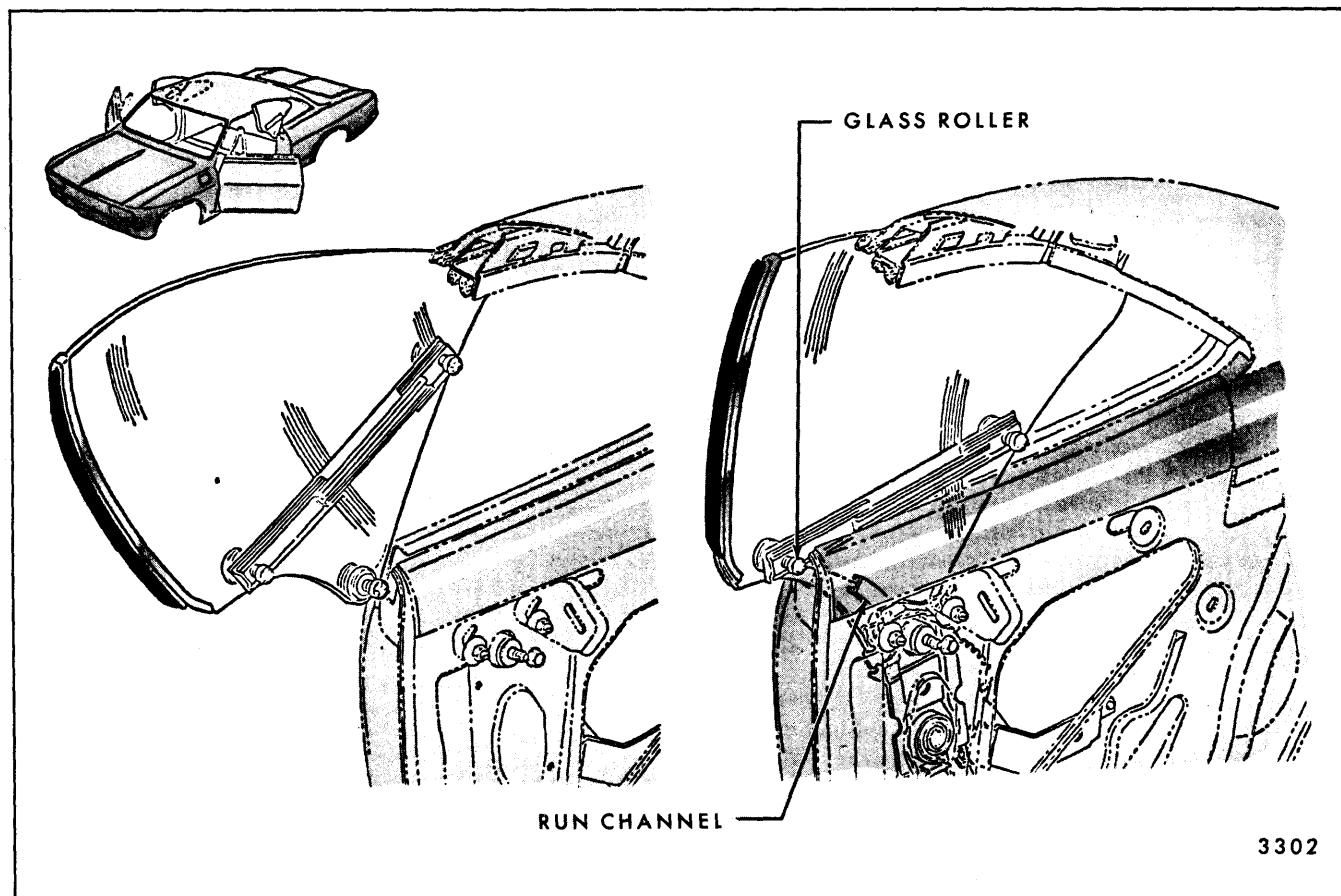

Fig. 7-33—Rear Quarter Window Removal - "Z-37" Style
6. Remove glass straight up and outboard of side roof rail on hardtop styles (Fig. 7-33).